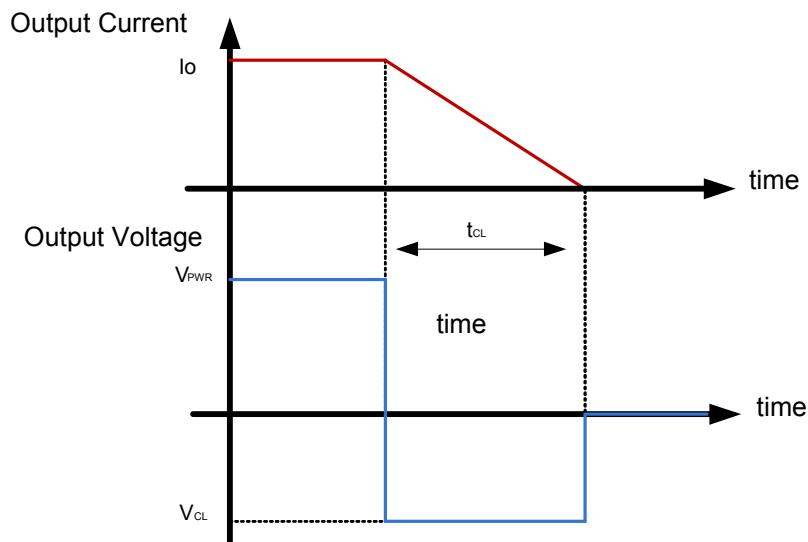

Figure 21. Simplified negative output clamp waveform
In case of an inductive load (L), the energy is dissipated after the turn-off inside the N-channel MOSFET. When $t_{\text{CL}} (= I_{\text{O}} \times L / V_{\text{CL}}) > 1.0 \text{ ms}$, the turn-off waveform can be simplified with a rectangle as shown in Figure 21.